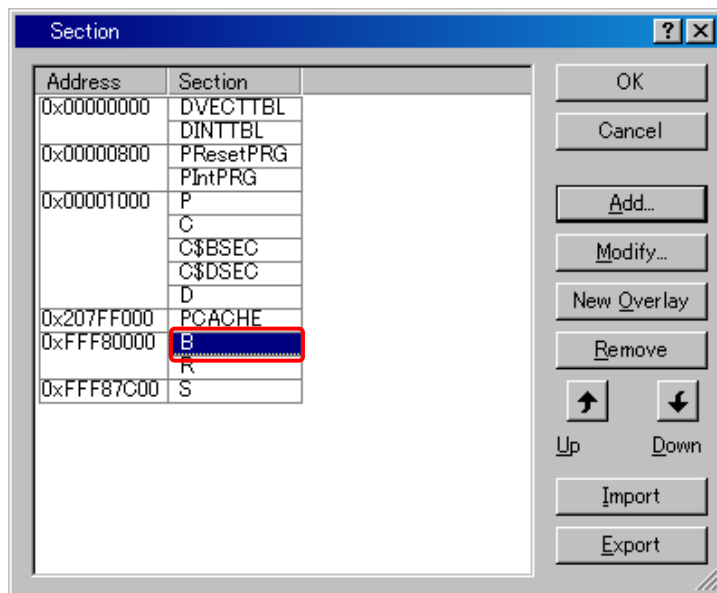

Figure 5.3.15 Section Change (1)
- (1) In [Section] dialog box, select "B" section as shown in Figure 5.3.15, and click "Remove".